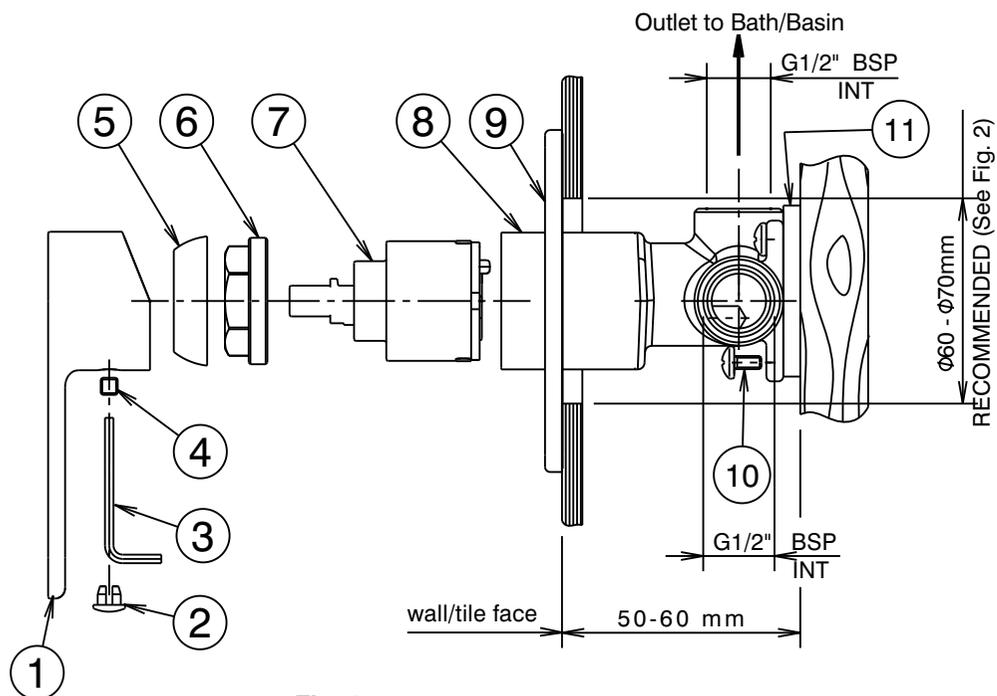
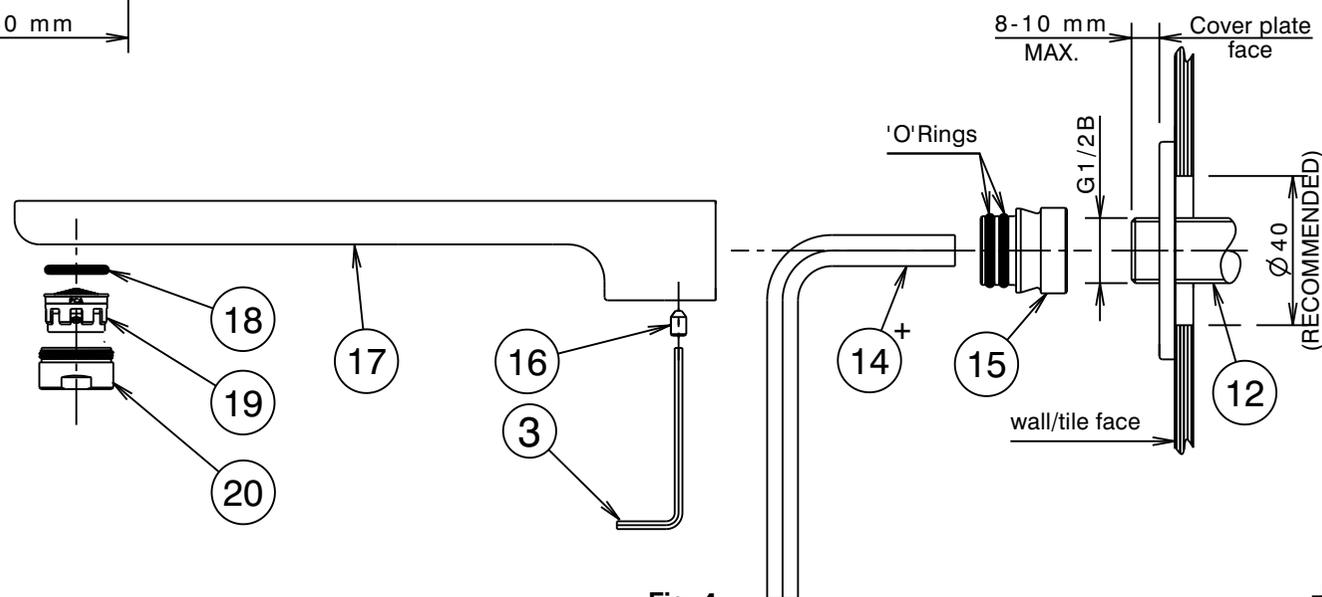

Fig. 1
Fig. 4
- 4) Apply a suitable clear sealant to the back face of the cover plate (9), leaving an unsealed section at the bottom for drainage. Carefully fit the cover plate (9) onto the mixer body (8), push firmly on the cover plate (9) until it contacts the wall/tile face. Wipe clean any excess sealant from the chrome surfaces & the wall/tile face (See Fig. 1). Check that the thread on the lugged elbow (12) is the correct length, as shown (Fig. 4). Cut to length if required ensuring end face is square. Apply thread tape to the thread. **Important:** Care must be taken that thread tape cannot become dislodged and block the flow regulating device, causing a reduction in water flow. To ensure correct installation, length of exposed thread must not exceed 10mm.
- 5) Fit handle (1) taking care that it is pushed fully onto cartridge stem, tighten screw (4) using the 2.5mm allen key (3) then fit plug (2).
- 6) Screw the spigot (15) onto the thread of the lugged elbow (12) using a 10mm allen key (14⁺) until the cover plate (9) is held securely against the wall/tile face. **DO NOT OVERTIGHTEN.** Apply suitable lubricant to 'O'Rings on spigot (15).
- 7) Fit wall outlet (17) onto the spigot (15), then carefully push it firmly against the cover plate while tightening grub screws (16) using the 2.5mm allen key (3) provided. Take care that the aerator housing (20) is pointing vertically downwards before tightening screws (16). (Fig.4)
Replacing Cartridge (Fig. 1)
Replacing Aerator Insert(Fig.4)